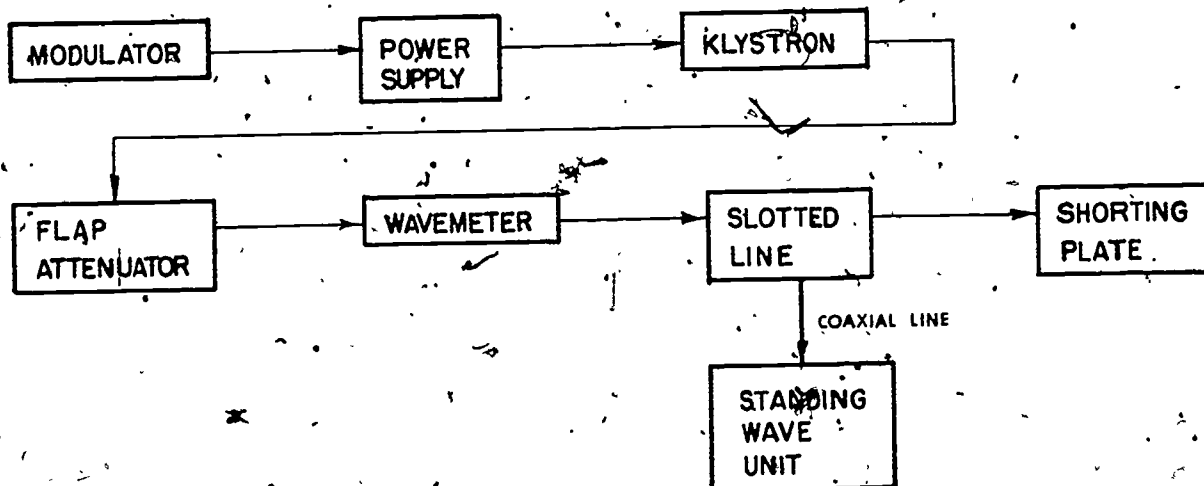

Fig. 1--Microwave Detector Setup.
1. Set up equipment as shown in Fig. 1.